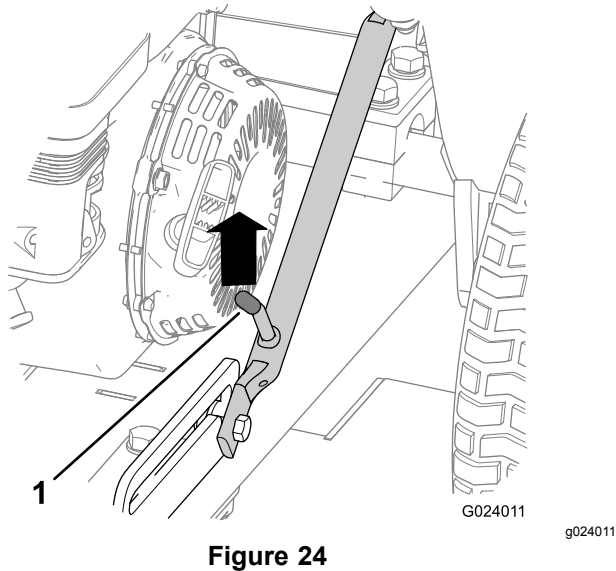
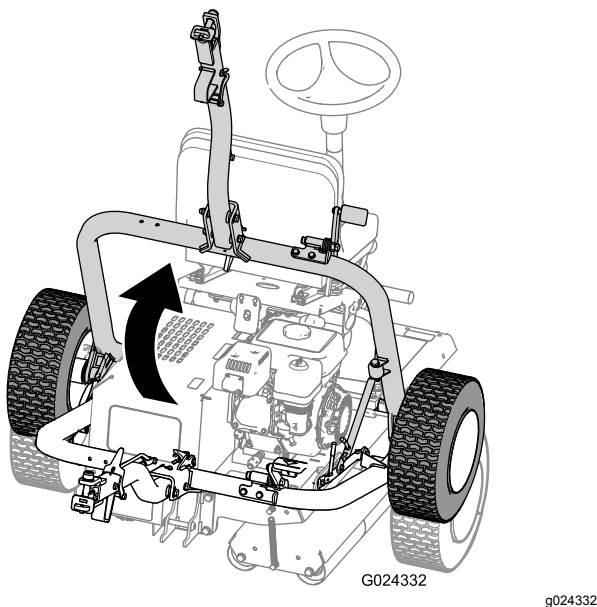

Figure 24
Figure 28
- A. Push up on the hitch assembly until the latch lever is unlocked from the slide detent (Figure 24).
- D. Raise the hitch (Figure 28) until the latch lever locks in the slide detent (Figure 24).